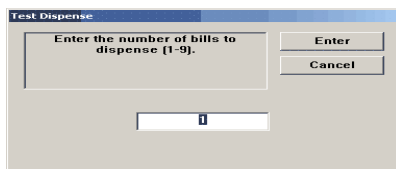

Figure 11. Enter # of notes.
10. Open the control panel and apply AC power to the ATM by pushing the AC power switch to the ON (1) position.
- c. Select the **Test Dispense** option. Select Cassette “A”. A prompt appears asking how many notes to dispense. (Figure 11) The Test Dispense operation will start.